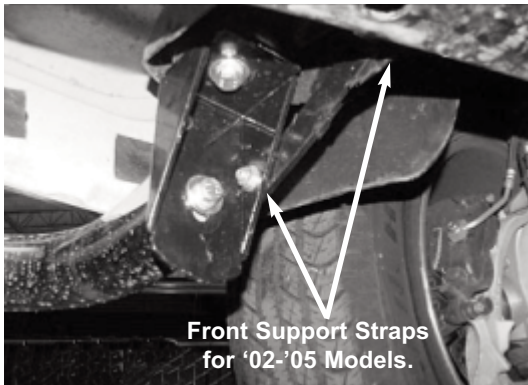
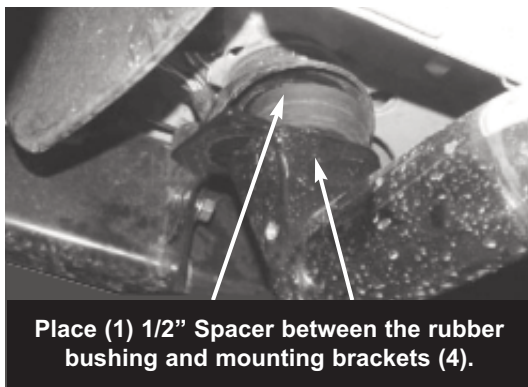

Figure 1 - Front Bracket (Driver Side)
Figure 4 - 1/2" x 1.88 x 3/16" Spacer
2. Remove existing body mount bolts, do not discard rubber bushing. Install the front bracket to the front body mount (**See Figure 1, 5**) by replacing the factory bolts with (1) M12 – 1.75 x 120mm bolt, 1/2" lock washer, and 1/2" flat washer. Place the 1/2" x 1.88 x 3/16" spacer between the bracket and the rubber bushing and hand tighten. (**See Figure 4**) Repeat Step #2 on opposite side.
Attach the front support strap to side of the front bracket using (1) 3/8" x 1 1/2" bolt, (2) 3/8" flat washer, (1) lock washer and (1) 3/8" hex nut. Attach the other end of the support strap to the frame rail housing using (1) 1/2" x 1 1/2" bolt, (2) 1/2" flat washer, (1) lock washer and (1) 1/2" hex nut. (**See Figure 1**) Note: Some models may require drilling a 1/2" dia. hole on the frame rail housing (body mount housing) if not equipped.